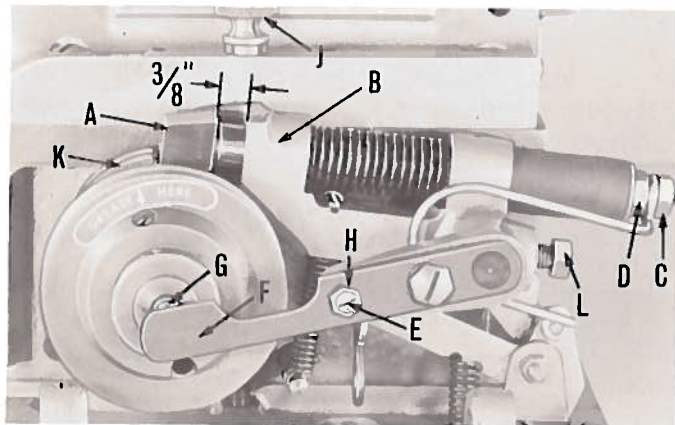
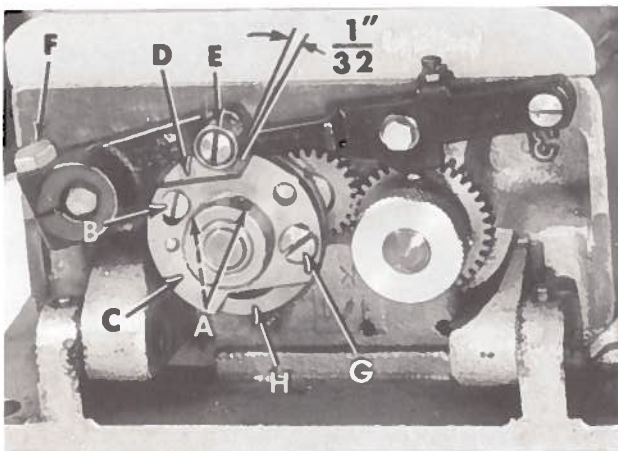
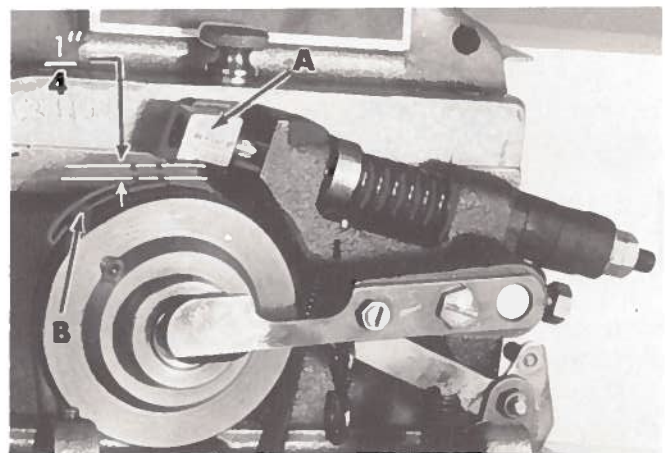
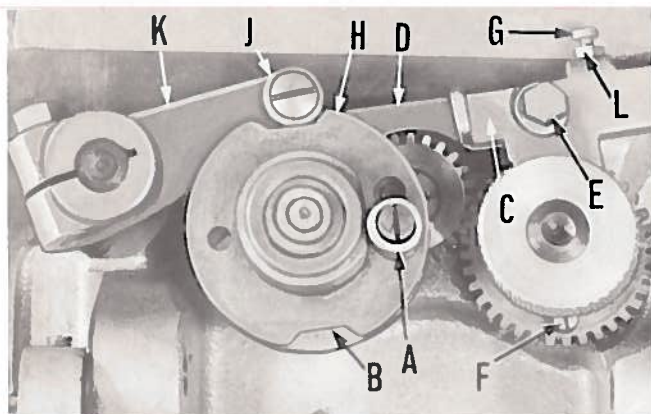

Fig. 1
Fig. 2A
Fig. 3A
Fig. 5
This position is that which is shown in Fig. 1 with the stop motion disc and pawl (K) against the plunger (A).
With the machine in stop position, the stop motion plunger (A, Fig. 1) should be set so that there is $\frac{3}{8}$ inch clearance between the bottom of the plunger and the plunger lever bracket (B). Loosen the back lock nut (C), and adjust the front nut (D) to obtain this setting. Lock the back nut. Adjust screw (E) in cam lever (F) so that there is $\frac{1}{32}$ inch clearance between ball (G) and the thin section of lever (F) when the pulley is pressed into machine. Lock screw with nut (H). Make sure that set screw (L) is securely tightened.
With the machine in stop position, loosen the two socket head set screws. (A, Fig. 2A) and screw (B). Rotate "left cam" (C) counterclockwise to the top of its elongated slot (as viewed in Fig. 2A) and tighten screw (B). Rotate cam (C) and "right cam" (D) as required to obtain 1/32 inch clearance between roller (E) and the front of slot in cam (D); tighten set screws (A).
Depress the treadle to take machine out of stop position, then rotate pulley two complete revolutions in operating direction. Release treadle and measure the distance between plunger (A, Fig. 3A) and the highest point on disc (B). The distance should be 1/4 inch. Adjustment can be made by loosening clamp screw (F, Fig. 2A) in the stop motion trip lever and moving lever up or down to attain specified clearance. Should it become necessary to move the lever down, depress the treadle while making adjustment. Retighten clamp screw (F).
- Step 1. With the machine in stop position, loosen screws (A, Fig. 2A) and screw (B). Advance "left cam" (C) by rotating it clockwise, SLIGHTLY, relative to the "right cam" (D). Retighten screws (A and B) after referring to NOTE 1 above.
- Step 3. Should disc and pawl (K, Fig. 1) stop short of plunger (A), (this can be checked by rotating disc towards the operator and if the plunger does not catch the disc and pawl, the machine has not reached its stopped position), denoting cam is advanced beyond proper setting. To correct: retard "left cam" (C, Fig. 2A) by rotating it counterclockwise, SLIGHTLY, relative to the "right cam" (D). Refer to NOTE 1 above, before securing screws (A and B).
NOTE: 2. With reference to (A, Fig. 5) under "STITCH SETTINGS", the stitch adjusting knob has been replaced by screw (G, Fig. 2A) which secures cam shoe (H) using the upper or lower hole in "left cam" (C), as applicable.
Depress treadle to take machine out of stop position, and rotate pulley two complete revolutions in operating direction. Loosen knurled screw (J, Fig. 1) and lay machine on its side.
Figure 5 shows the machine in stop position, and set for 12 or 16 stitches. The stitch adjusting knob (A) is at its low
When changing from 6 or 8 to 12 or 16 stitches, the machine must be in stop position with the stitch adjusting knob (A, Fig. 5) towards the front. Pull out on the stitch adjusting knob (A) and move it to the bottom of its slot as shown in Fig. 5. Gap (B) will now be closed.
When changing from 6 or 8, or 12 or 16, to 24 or 32 stitches, the machine must be in stop position with stitch adjusting knob (A, Fig. 5) to the front. If the machine is in the 6 or 8 stitch position, pull out on the stitch adjusting knob (A) and move it to the bottom of its slot. Check position of screw (F). It should be at the bottom as shown in Fig. 5. If it is not, the machine will have to be re-cycled once to bring screw (F) into proper position.